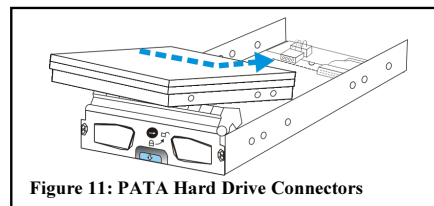

Figure 11: PATA Hard Drive Connectors
1. For PATA drives, connect the ATA and power cables from the dongle kit to the hard drive. Make sure that these connections are secure and will not come loose. (See Figure 11)